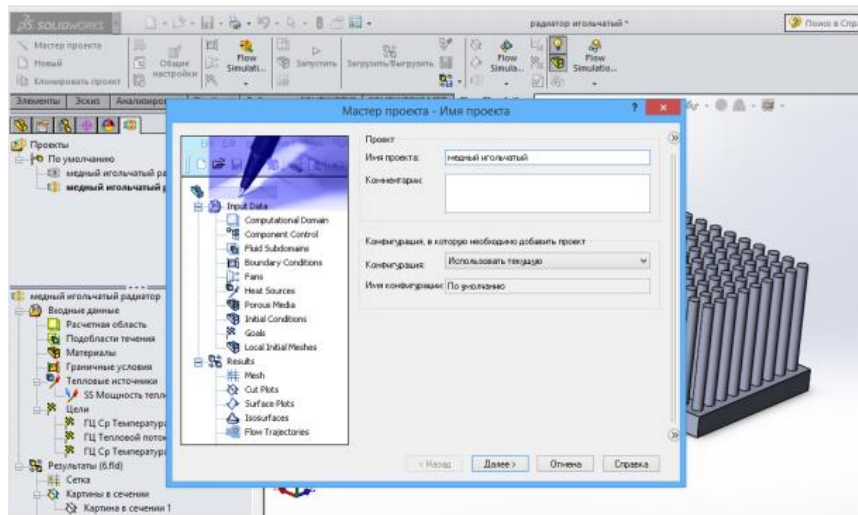

Figure 8.6 - Tool "SolidWorks Flow Simulation"
8.2.7 To simulate the heat transfer process, click on the "SolidWorks Additions" tab, select the "SolidWorks Flow Simulation" tool. We start the new project wizard. Then a window of the project wizard will open, in which we enter the name of the project as "Needle copper" (figure 8.6).